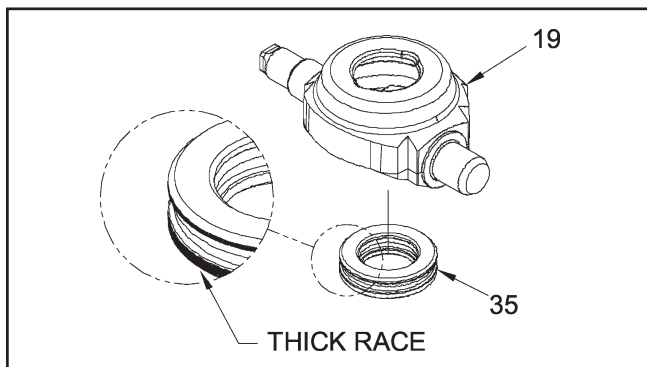

Figure 15.
11. **(See Figure 15)** Remove the thrust bearing assembly (35) from the swashplate (19).
11. **(See Figure 15)** Install the pump thrust bearing (35) in the trunnion machined swashplate (19). NOTE: Place the thin race of the bearing towards the swashplate. The thick race must face the pistons.